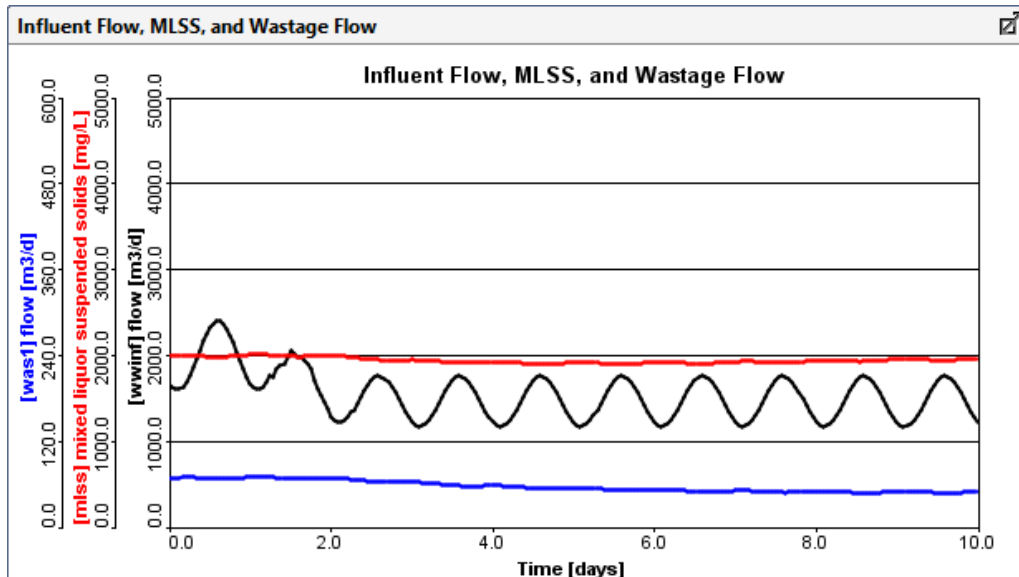

Figure 7-13 – Simulation with MLSS Controller
32. **Run a 10-day simulation.** The results shown in **Figure 7-13** were performed using these tuning parameters for the MLSS controller. The MLSS setpoint was 2000 mg/l and the average influent flow rate was decreased to test the performance of the controller under dynamic conditions.